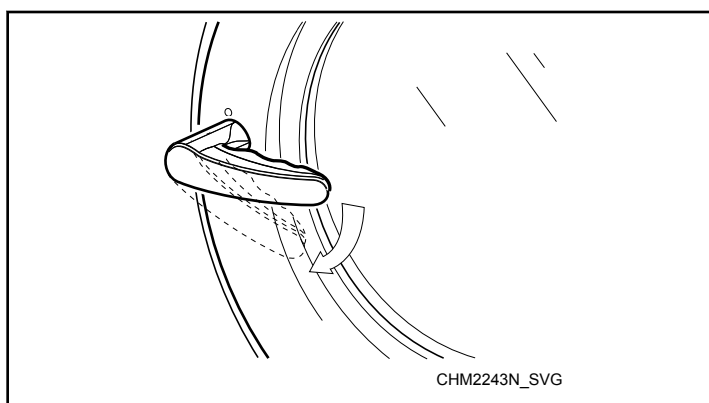

Figure 5
2. Turn handle clockwise to open. Refer to *Figure 5*.